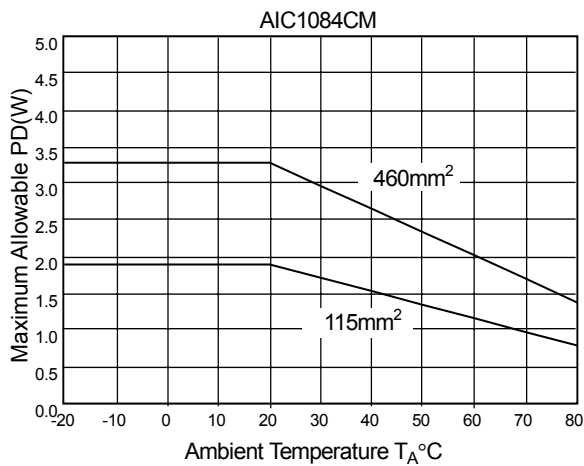

Fig. 4: Max allowable PD vs. ambient temperature for TO-263
(de-rating to 80% from fig. 4)
Step2: Find the value of the thermal resistance you need ($R\theta_{JA}$) in table1 for $115mm^2$ and the value of the maximum power limit ($P_D (max)$) on the Y axis in figure 4.
The Y value, the maximum allowable PD, can be found by reading the intersection of $T_A = 25^\circ C$ with the curve for $115mm^2$ in figure 4.